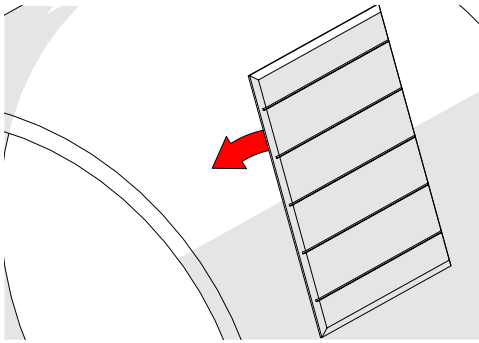

Fig. 200 - Place installation/removal mat
5. Place the installation/removal mat on the inspection surface (Fig. 200).